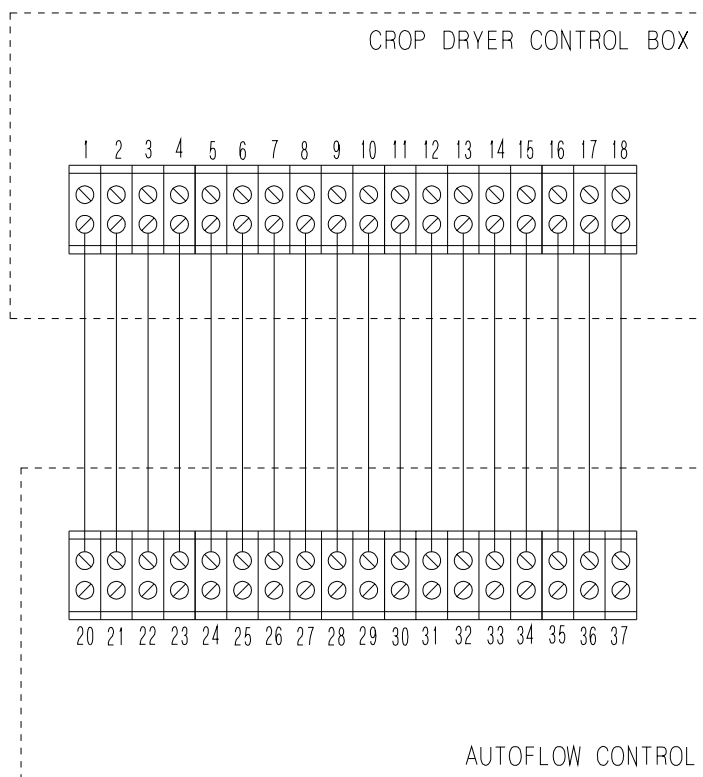

Figure 8.
1. Run (18) 20 guage (minimum) wires from Autoflow Control Box to fan and heater control box.
2. Make wire connections as shown in Figure 8.
1. Run (18) 20 guage (minimum) wires from Autoflow Control Box to #1 fan and heater control box.
3. Run (18) 20 guage (minimum) wires from Autoflow Control Box to #2 fan and heater control box.